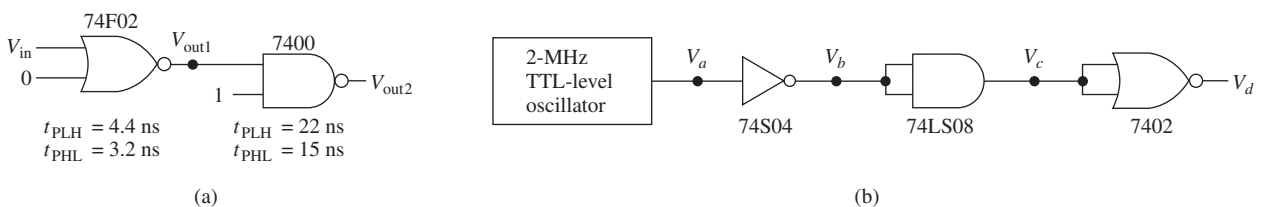

Figure P9-10
- C** 9-10. (a) Repeat Problem 9-9 for the circuit of Figure P9-10(a).
(b) Repeat Problem 9-9 for V_a , V_b , V_c , and V_d in Figure P9-10(b).